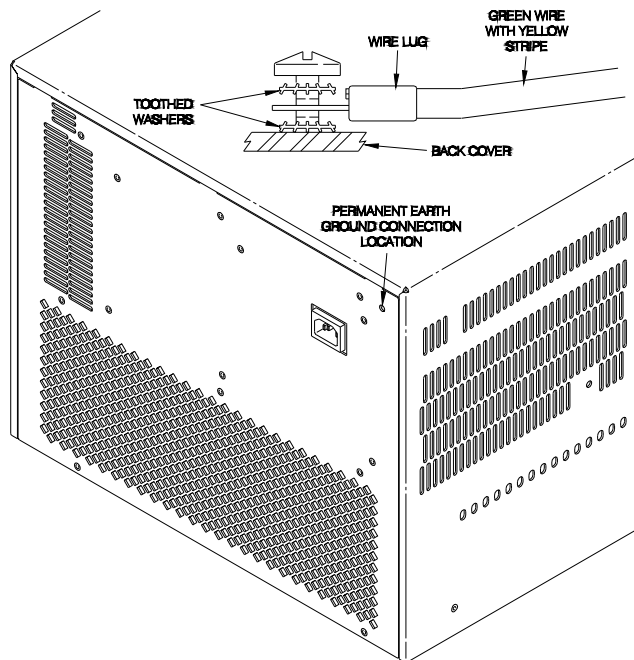

Figure 1-1. Connecting an Agilent E840xA Mainframe to a Permanent Earth Ground (Agilent E8403 shown, Agilent E8401 is similar)
1. Connect a 16 AWG (1.3 mm or larger) wire to the PEM nut shown in Figure 1-1. The wire must be green with a yellow stripe, or bare (no insulation). Use a m4 x 10 screw, grounding lug, and toothed washers (or toothed lug) as shown in the Figure.